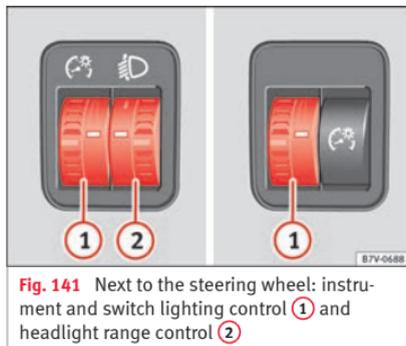

Fig. 141 Next to the steering wheel: instrument and switch lighting control ① and headlight range control ②
① Instrument and switch lighting
When the headlights are switched on, the brightness of the instruments and switch lighting can be regulated by turning the switch »» **Fig. 141 ①**.
② Headlight range control
The headlight range control »» **Fig. 141 ②** is modified according to the value of the headlight beam and the vehicle load status. This offers the driver optimum visibility and the headlights do not dazzle oncoming drivers »» .
To reset, turn switch »» **Fig. 141 ②**: